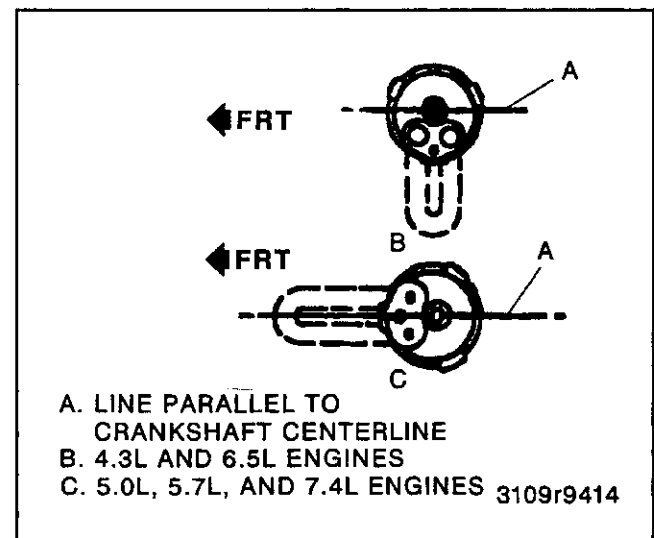

Figure 1—Engine Coolant Heater
## Remove or Disconnect (Figures 1 through 5)
### Install or Connect (Figures 1 through 5)
- Install the heater element in the correct direction to avoid element contact to the inside walls of the engine block as shown in figures 1 and 2.